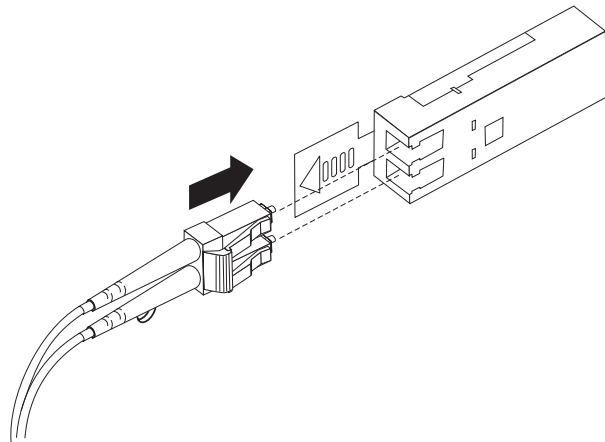

Figure 34. Inserting an LC-LC Fibre Channel cable into an SFP module
4. Carefully insert this end of the LC-LC cable into an SFP module that is installed in the EXP100. The cable connector is keyed to ensure it is inserted into the SFP module correctly. Holding the connector, push in the cable until it clicks into place, as shown in Figure 34.